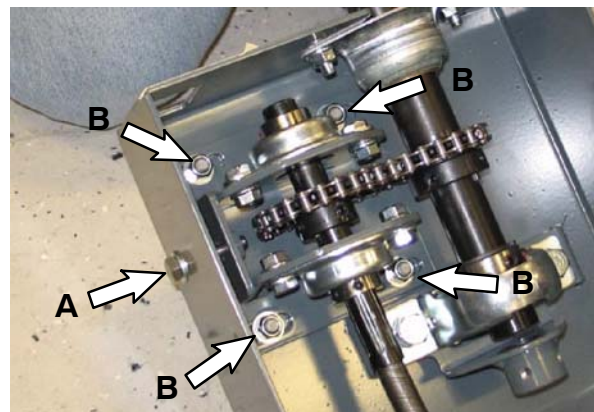

FIG. 35
- Newer Design Machines:** Tighten the steering tension hardware (A) and then tighten hardware (B) (24 Nm / 18.5 ft lbs) to secure the support plate weldment to the steering channel. (Fig. 35)